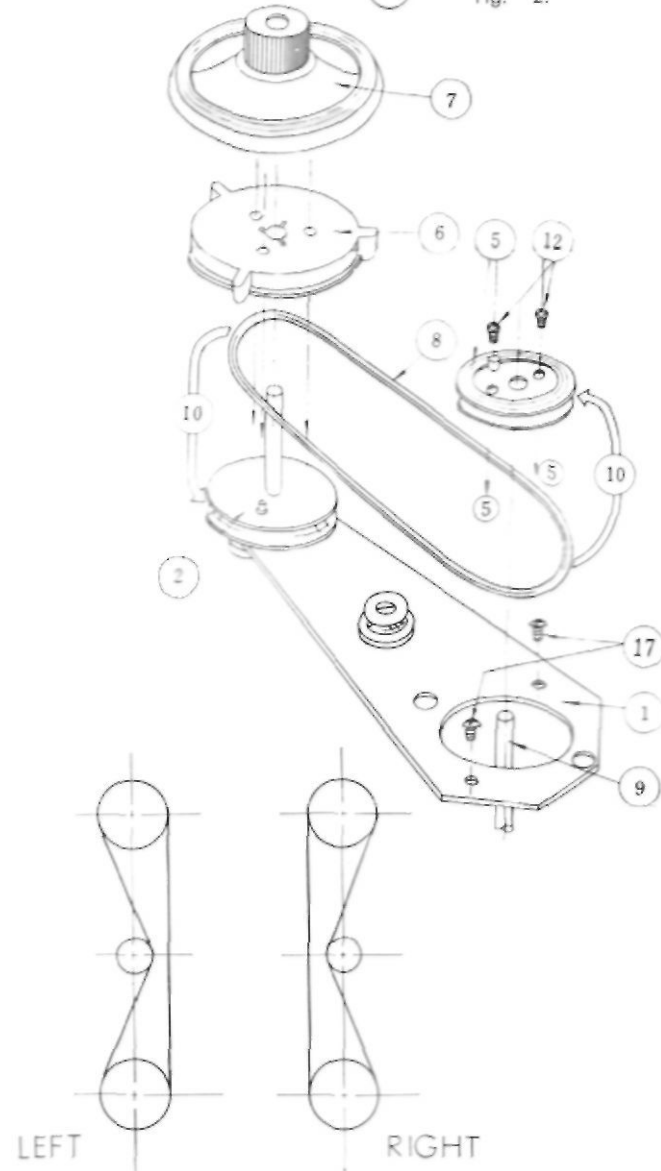
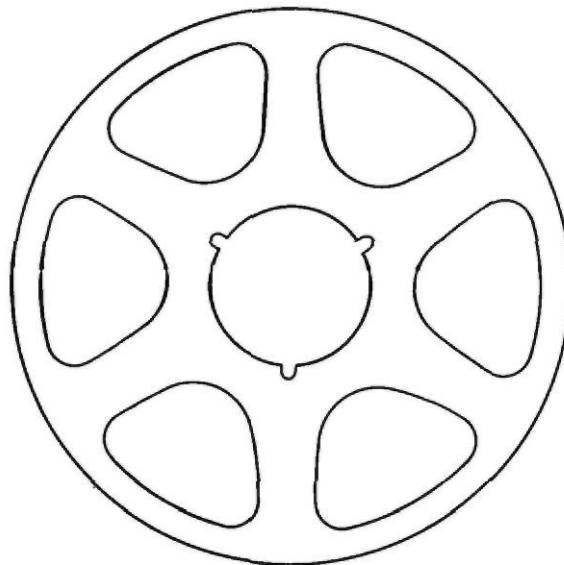

Fig. 3.
Fig. 5
3. Installation: Refer to Fig. 3.)
Set the Belt (8) on Belt Groove and 7" Reel Table on the RTMA type reel table in Fig. 3.
This type of reel can be used on Reel Table (2) of Fig. 3.
This type of reel is shaped in its core as shown in Figure 5, and is mostly made of metal. This reel is to be used by putting the NARTB type reel adapter (6) in Fig. 3 on the RTMA type reel table (2) of the same figure.
When 10-1/2" reel is used, it is important to hold it on the reel shaft as tight as possible using the reel retainer (7) shown in Fig. 3. Put the reel retainer by slightly rotating it in either direction to hold the 10-1/2" reel tight in position.